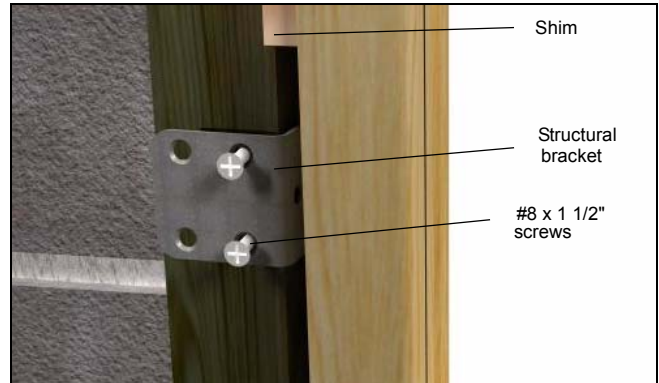

Figure 7
2. Wrap brackets around the framing/buck/opening, fasten with two #8 x 1 1/2" screws. Angle the screws approximately 15° away from the window. Always shim above or behind installation brackets. See figure 7.